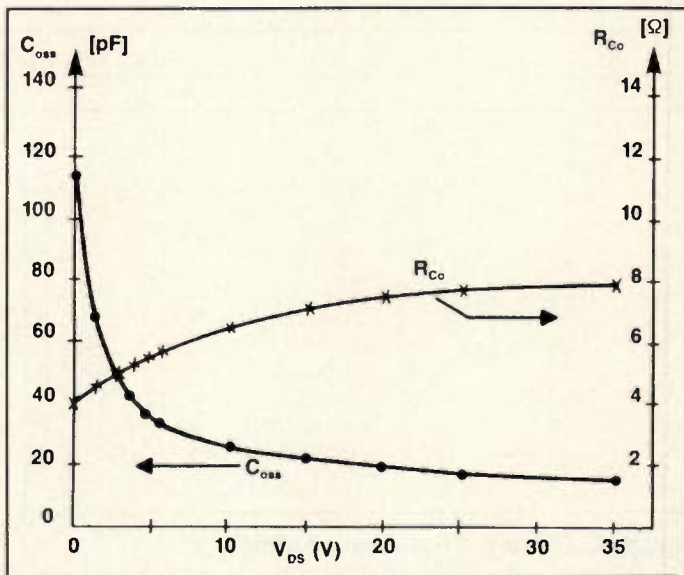

Figure 6. R_{Co} and C_{oss} vs. V_{DS} at 13 MHz, IRFD1Z0.
2. *Nonlinearity of output capacitance.* The transistor output capacitance is voltage-dependent, decreasing with increasing voltage. Figure 6 shows an example: C_{oss} vs. drain-source voltage for a 100-volt MOSFET, International Rectifier IRFD1Z0. To be able to derive tractable analytic expressions for predicting circuit performance, the engineer must replace that voltage-dependent capacitance by an "equivalent" fixed-value (linear) capacitance. The definition of "equivalent" depends on the application. For analyzing switching-mode RF power amplifiers such as the Class-E amplifier [4]-[6], "equivalent linear capacitance" can be taken to mean the linear capacitance which would result in the switch voltage returning to zero during the switch "off" interval at the same time as occurs with the actual nonlinear capacitor. (During that "off" interval, the capacitor is being charged and discharged by a current which is determined partially by the transistor output capacitance.) The peak voltage on the nonlinear capacitor will be larger than the peak voltage which would occur in the same circuit using a linear capacitance of the same "effective" value.